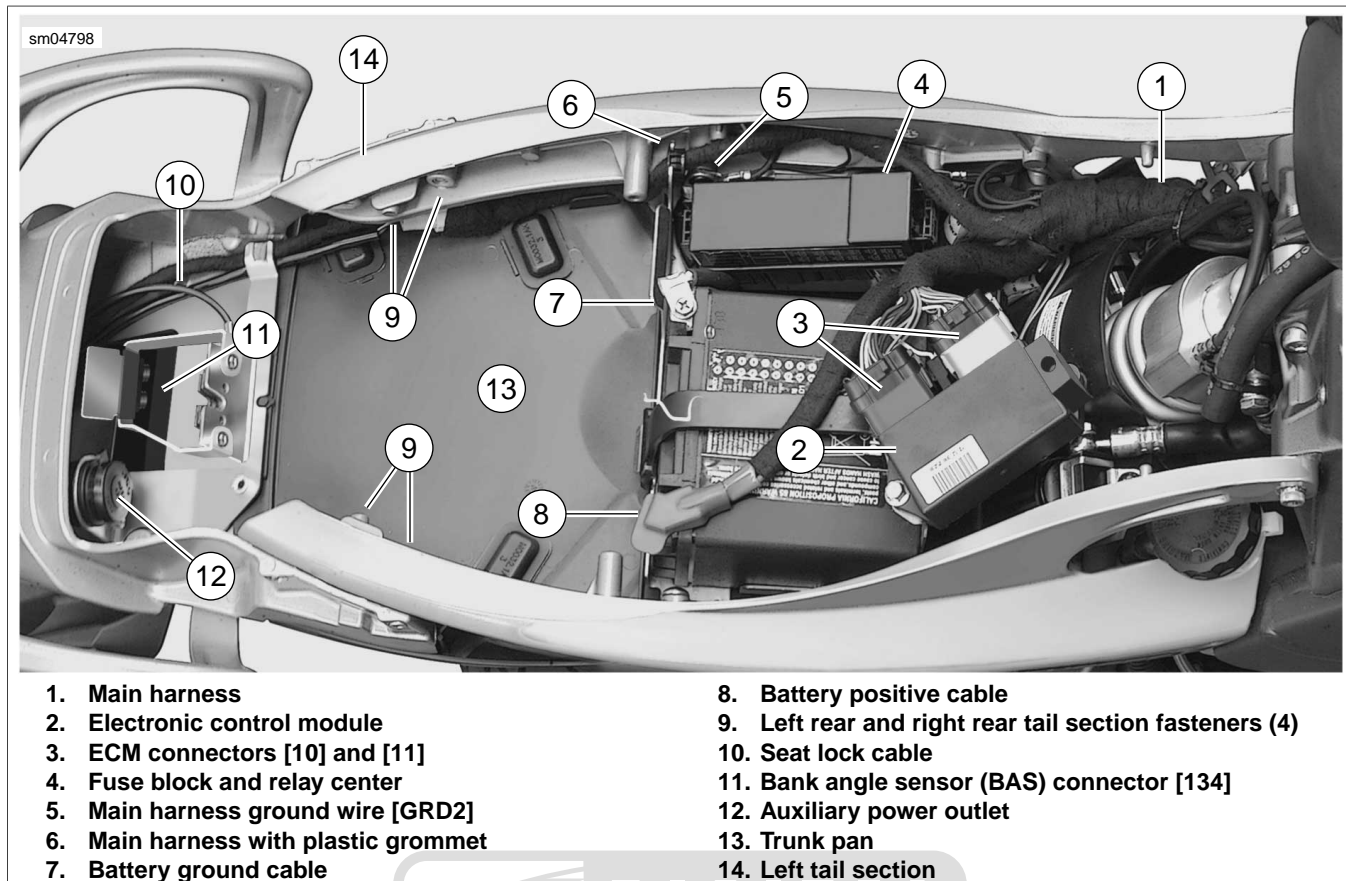

Figure 2-171. Main Harness and Electrical Components Under Seat: Ulysses
2. See Figure 2-171. Disconnect battery cables from battery: negative cable (black) first.
5. See Figure 2-171. Disconnect ECM connectors (4) [10], [11] and [164].
- a. Remove ECM (3).
- c. Disconnect and remove Bank Angle Sensor (2) [134].
- d. Remove fuse block and relay center (5).
- e. Remove main harness and plastic grommet (7) from battery pan.
- a. See Figure 2-171. Remove the two fasteners securing the preload adjuster to the trunk pan (13).
1. See Figure 2-171. Install trunk pan assembly (13) from left side of vehicle.
4. Install left tail section (14) onto vehicle.
- b. Install fuse block and relay center (5).
- c. Install main harness and plastic grommet (7) into battery pan.
- d. Install bank angle sensor (2), connect and tighten fastener to 12-36 **in-lbs** (1.4-4 Nm).
7. See Figure 2-171. Connect ECM connectors (4) [10], [11] and [164].